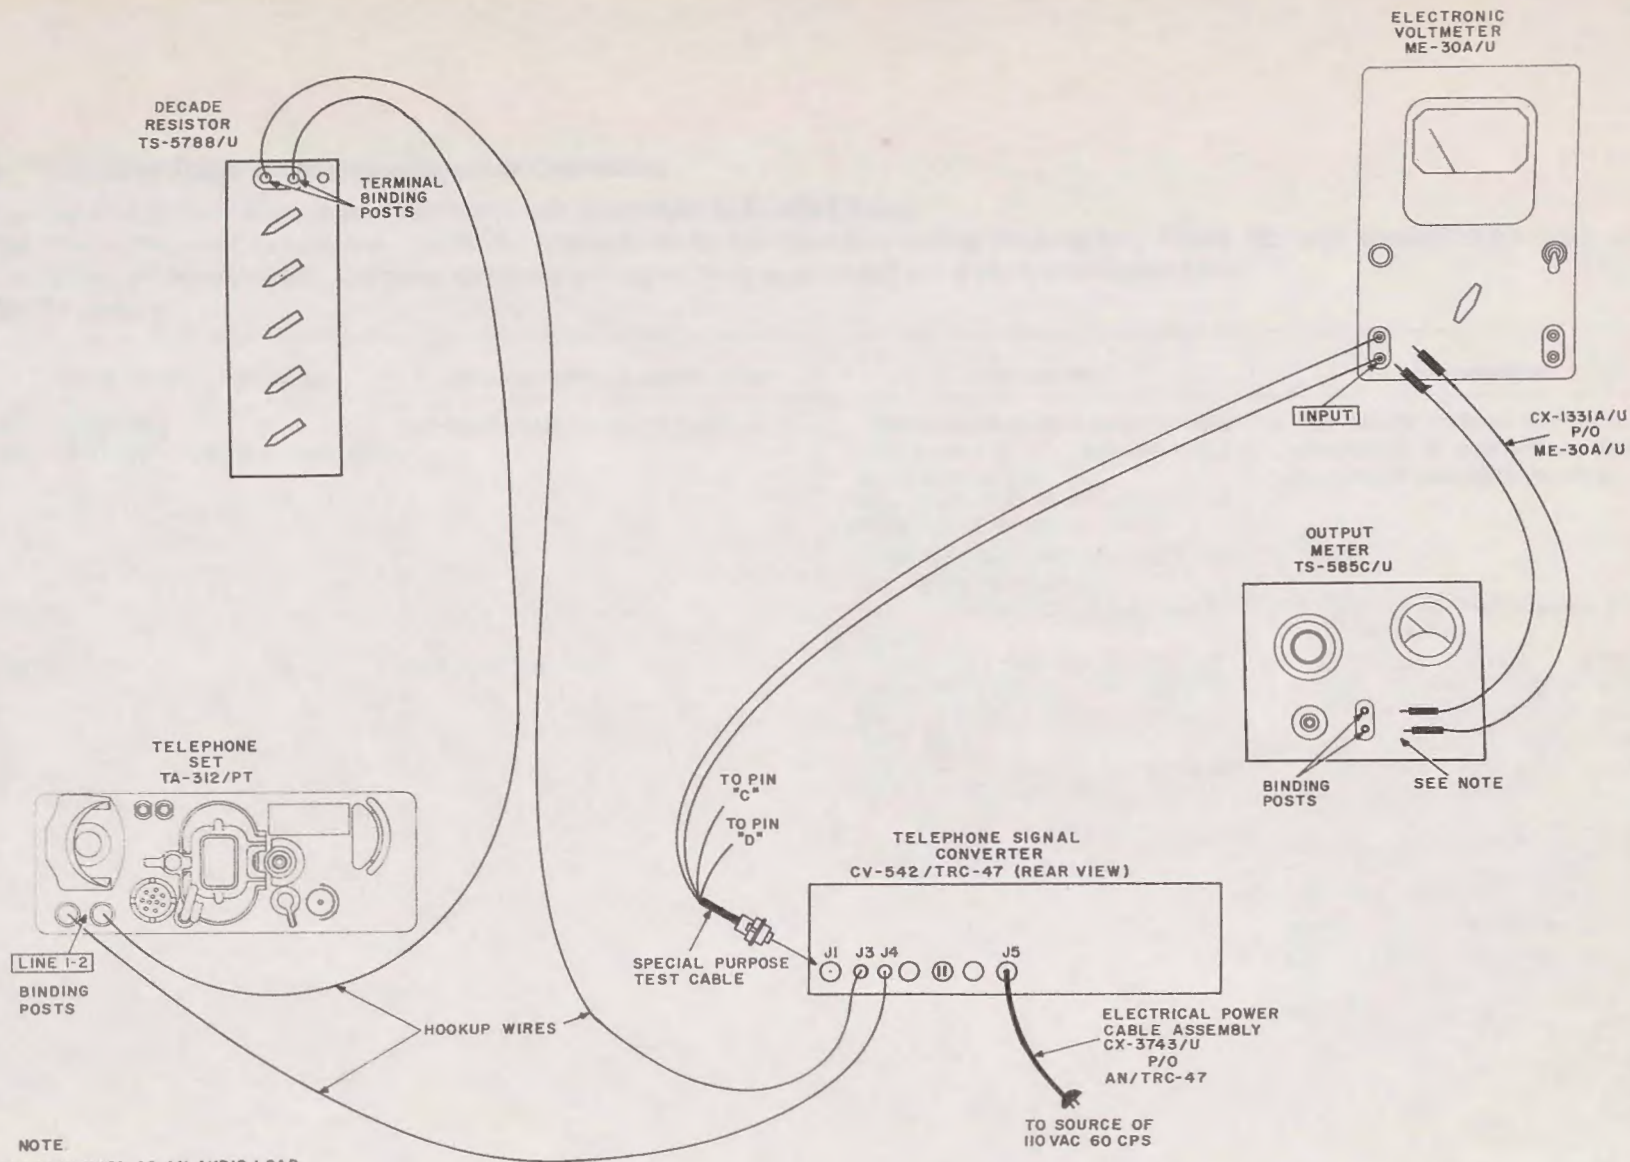

Figure 48.11. (Added) Converter 800-cps oscillator output test.
b. Test Connections and Conditions. Connect equipment as shown in figure 48.11.